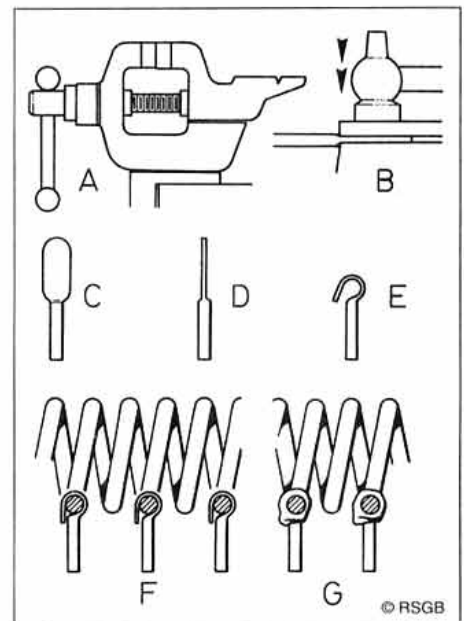

Fig 10: Making secure taps to an air-spaced coil as suggested by G4XPP.
Fig 10 shows how G4XPP cracked the problem. His small hobby bench vice (A) has a small anvil on the back. With the vice screwed on the bench, the ends of the twelve wires were flattened (B,C,D) with a hammer. [Presumably any other suitable metal plate or 'anvil' could be used instead of a bench vice - G3VA].